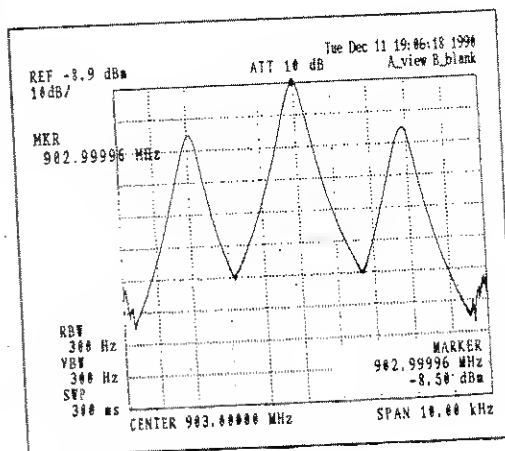

Fig. 4-14 FM wave f_c and E_c
- ② Read the carrier frequency f_C from the center frequency indication and read the carrier level E_C from the reference level indication. (See Fig. 4-14.)
- ③ Match the delta marker with the 1st side bend and read the frequency f_{SB} and level E_{SB} from the delta marker indication.